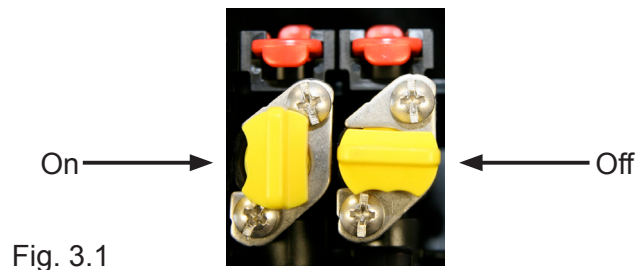

Fig. 3.1
- J. Turn on water and syrup to flow controls by rotating yellow Shut-off knobs (see Fig. 3.1).
- M. Dispense about two (2) cups and dispose. Using a ratio cup check ratio. If not in spec use a small screwdriver to adjust. Clockwise increases flow. Counterclockwise decreases flow.